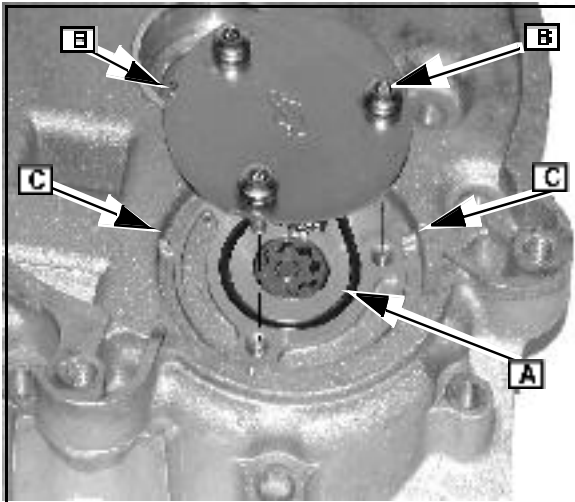

Fig. 22
1. Install O-ring ([A] Fig. 22) to groove in sump.
2. Place pump cover on oil pump cavity. Line up two notches (B) in pump cover with two ribs (C) in pump cavity.